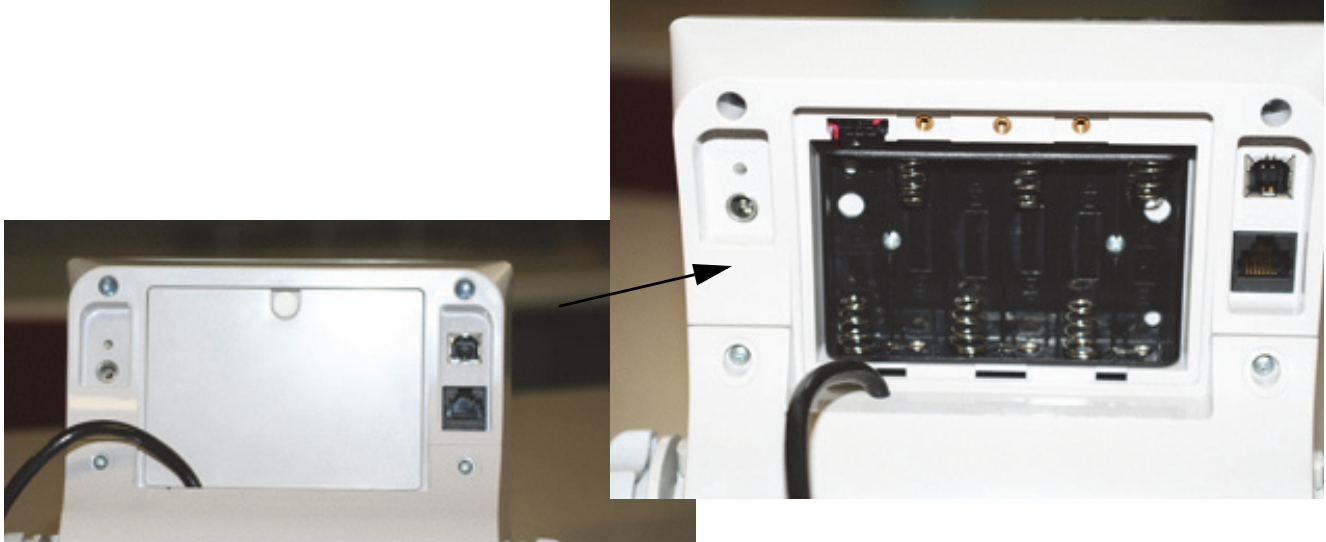

Figure 3-3. Battery Chamber
2. Insert batteries into the battery chamber as shown in Figure 3-3.